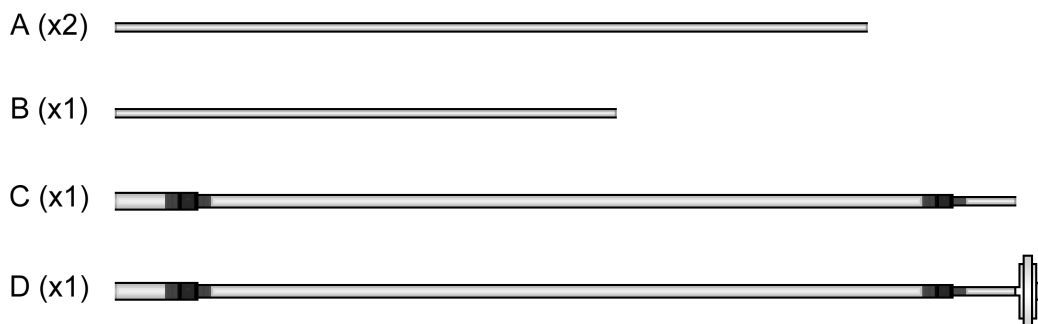
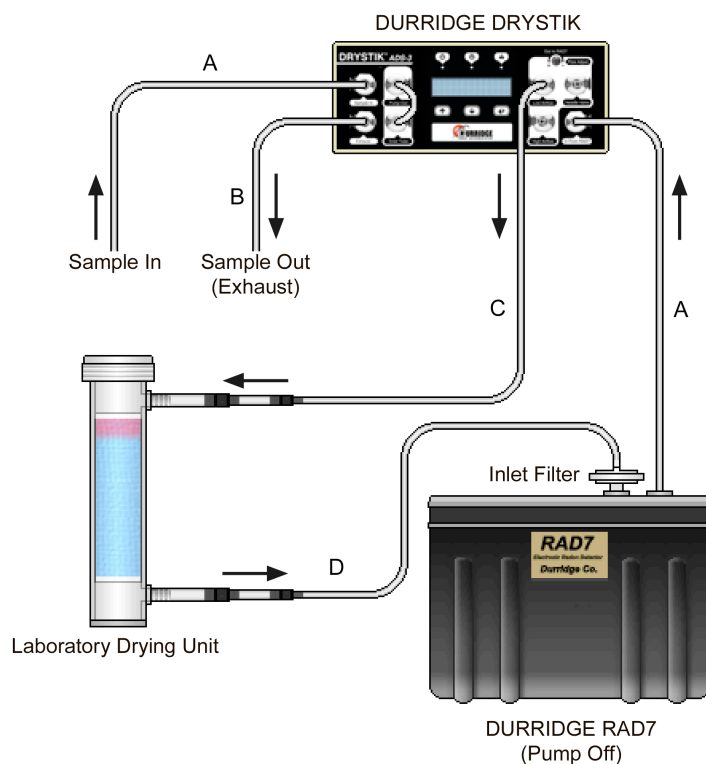

Fig. 1 Tubing included with DRYSTIK
Fig. 12 Basic setup for monitoring radon in air
- Tubing Set consisting of the following sections (See Figure 1; tubing usage shown in Figure 12.)